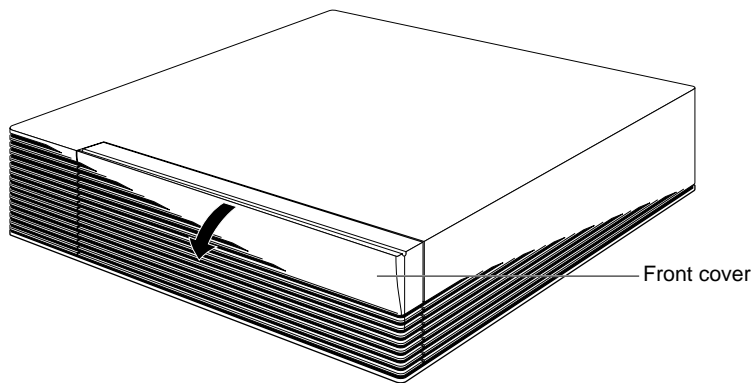

Figure 3-1 Removing the Front Cover
- Open the front cover by snapping it away from the top edge of the chassis and tipping it down, as shown in Figure 3-1.